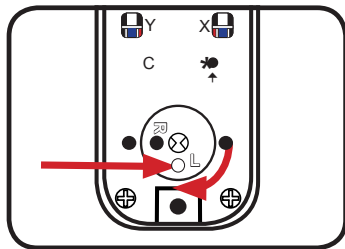

Fig.3
3. Remove the handing pin located in 'R' hole and rotate the handing disc clockwise so that the 'L' is on the bottom as per **Fig.3**.